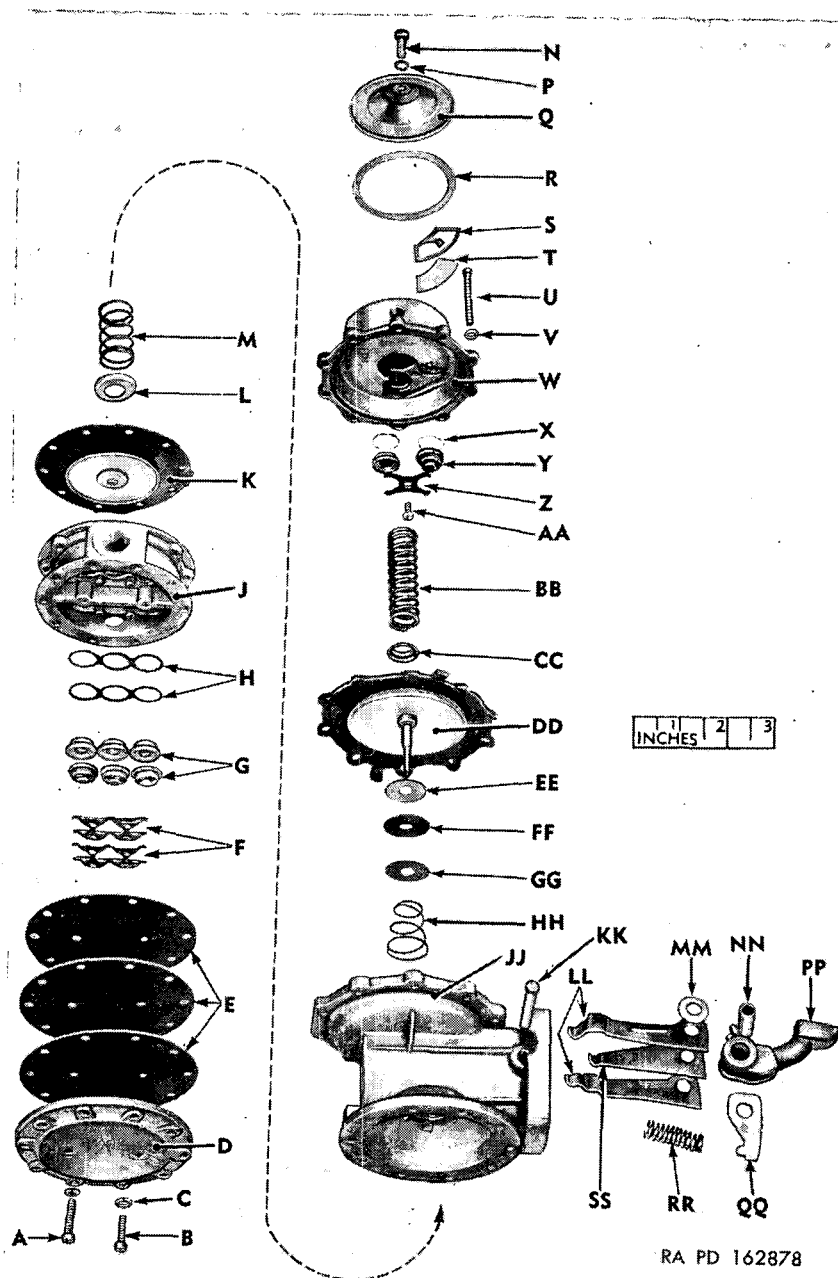

Figure 52. Fuel and vacuum pump—disassembled (typical series BK and BN construction).
*a. Assemble Body (fig. 52).*
- (1) Place fuel section gasket and seal in recess of body with dished portion of seal down. Press down firmly with flat end of  $\frac{7}{8}$ -inch diameter round bar. Retain by staking die cast lip in four places.
- (2) Assemble link spacer over fuel link. Place one vacuum link on each side of fuel link.